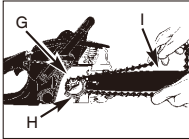

Fig. 3E
8. Slip the chain around the sprocket (G) behind the clutch (H). Make sure the links fit between the sprocket teeth. (Fig.3E)
9. Guide the drive links into the groove (I) and around the end of the bar. (Fig.3E)